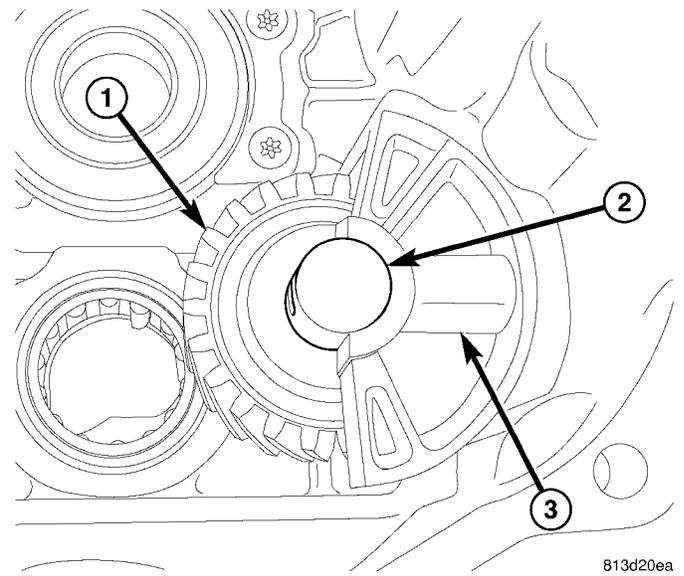

Fig. 89 IDLER GEAR SHAFT
(8) Install idler gear (1) (Fig. 89) shaft (2) with shaft bolt hole aligned with shaft support hole (3).